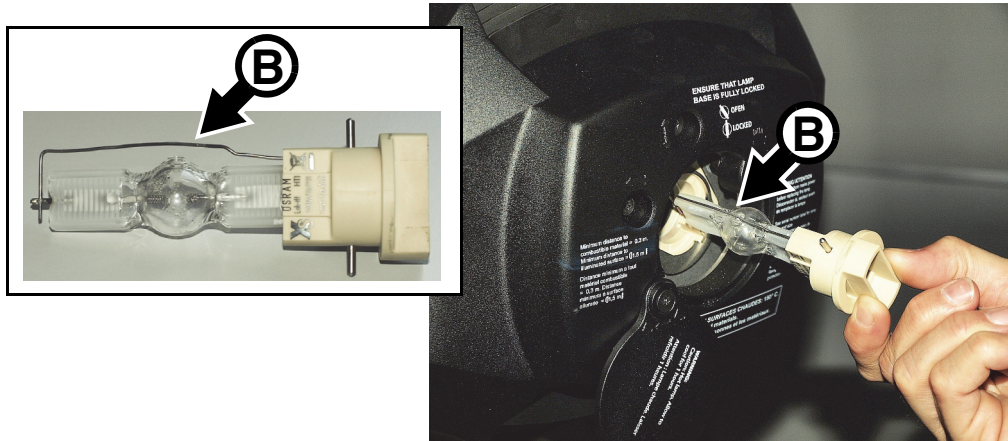

Figure 10: Lamp removal / refitting
6. See Figure 10. Hold the replacement lamp so that the external wire **B** is facing up towards the top of the head (towards the vertical and horizontal alignment screws **C** and **D** in Figure 11) and line up the contacts on the lamp base with the slots in the lampholder. Slide the lamp into the fixture until the contacts are fully inserted in the slots, then twist the lamp base a full 45° clockwise until it locks into position with a noticeable click. The lamp is a stiff fit and trying to strike a lamp that is not correctly installed can cause damage that is not covered by the product warranty, so ensure that the lamp is correctly locked into position.